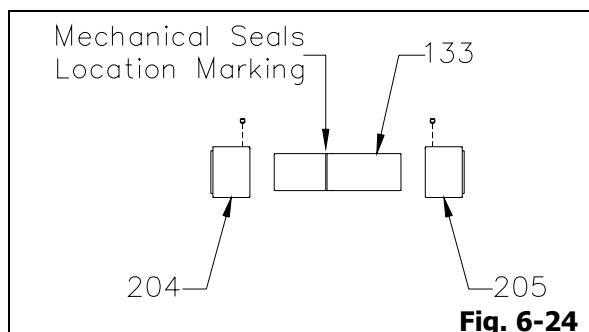

Fig. 6-24
- For mechanical seals (204 and 205) furnish with jam nuts, where abutment ring (463) is not available, unscrew the mechanical seals jam nuts, and remove rotary portion of pump end and atmospheric end mechanical seal (204 and 205) from shaft sleeve (133) (Fig. 6-24).